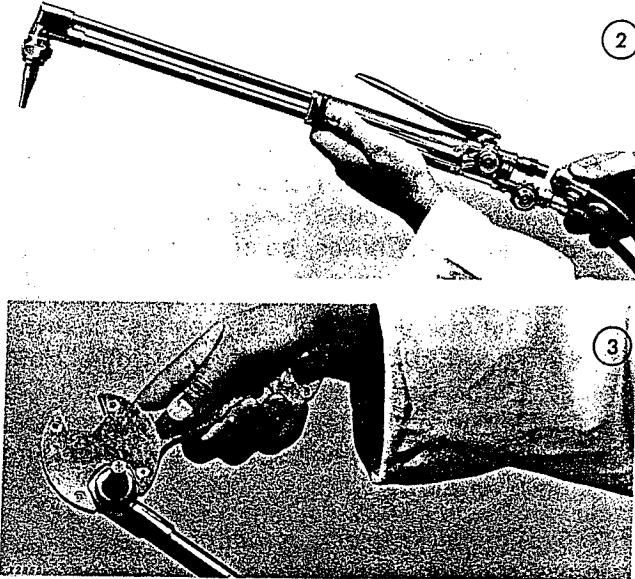

Fig. 81 — Setting Up Cutting Torch
2. Connect hoses in the same manner as for the welding torch (Fig. 81, top).